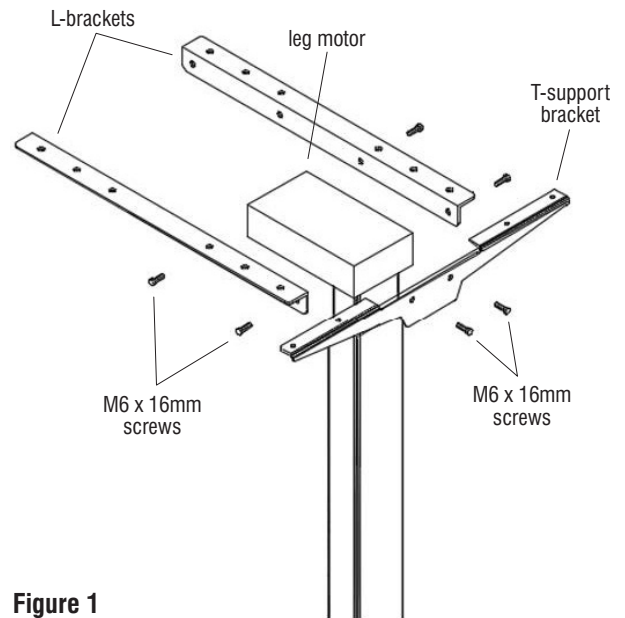

Figure 1
1. Locate the T-support bracket. Position the bracket at the end of the leg motor as illustrated in Figure 1 and align the two mounting holes on the bracket with the two holes on the motor. Secure the bracket to the motor using two M6 x 16mm screws (Figure 1).
2. Locate two L-brackets. Position a bracket on the side of the leg motor as illustrated in Figure 1 and align the two mounting holes on the bracket with two holes on the motor. Secure the bracket to the motor using two M6 x 16mm screws. Repeat this process to secure the second bracket to the opposite side of the leg motor (Figure 1).